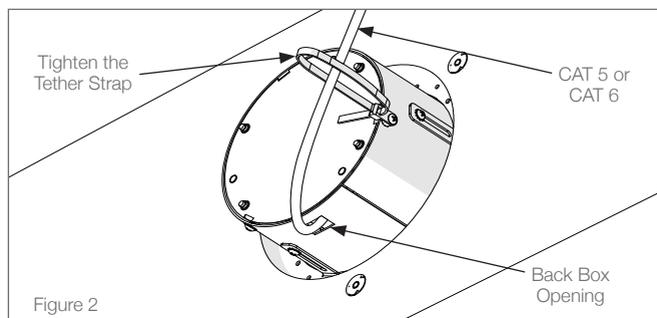

Figure 2
1. Once the mounting platform is in position, insert the CAT5/ CAT6 cable into the mounting platform back box opening from the bottom and secure it using the provided tether strap attached to the back box to prevent it from falling into the wall cavity. Make sure to insert the connector and enough slack to prevent it from falling out during mounting platform installation (see Figure 2).
3. Verify that the CAT5/6 is still in position within the mounting platform box (see Figure 2).
1. Remove the mounting box assembly from the mounting platform (see Figure 2).
2. Verify that the CAT5/CAT6 is still in position within the mounting platform box (see Figure 2).